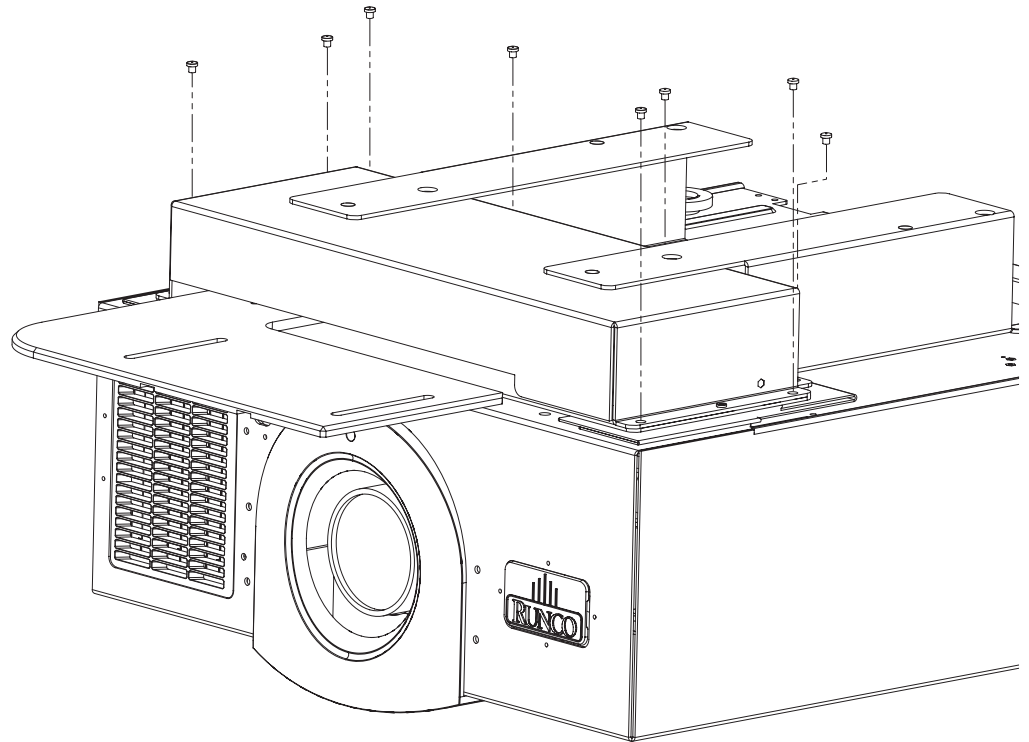

Figure 3-8. AutoScope Lens Motor Installation
- Install Lens Motor** ➤ Position the AutoScope Lens Motor (item #5) as shown in Figure 3-8. Line up the eight mounting holes on the lens motor housing with those on the Lens Motor Mounting Plate. Secure the motor to the projector with the eight, 1/4-20 x 1/2" Phillips screws (item #6) provided for this purpose.